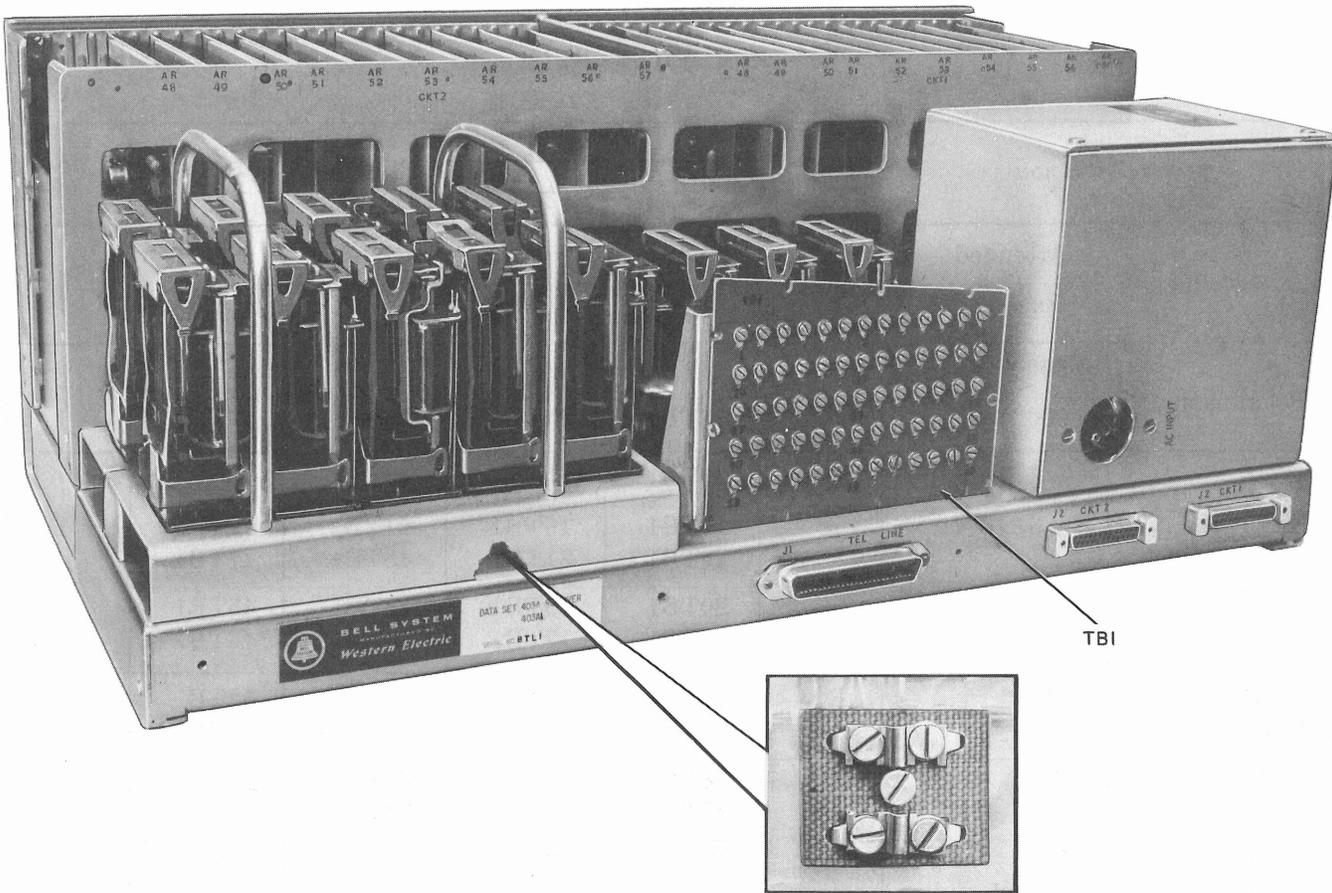

Fig. 2 — Data Set 403A Type Rear View With Cover Removed Showing Locations For Strapping Options For 5A1 Data Unit
3.04 Fig. 2 locates TB1 on Data Set 403A type and also locates the terminal board on 5A1 Data Unit upon which the options are strapped.